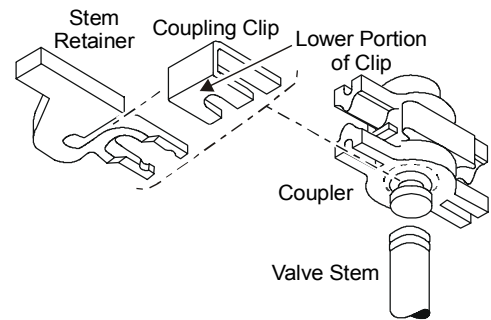

Figure 6: VA-8020-605 Stem Retainer and Clip Kit
6. Place the stem retainer and coupling clip over the valve stem, so the lower (shorter) portion of the coupling clip is positioned in the locking groove on the valve stem as shown in Figure 6.
To remove the coupling clip, use a pliers to grip the stem retainer and pull outward. (See Figure 6.)